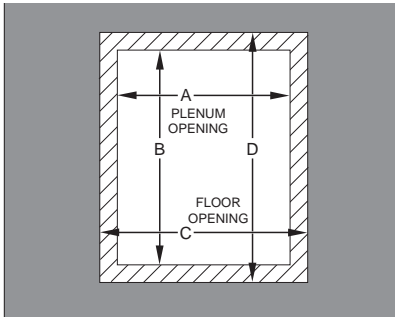

Fig. 11 – Floor and Plenum Opening Dimensions
- Construct hole in floor (see Table 4 and Fig. 11).
- Construct plenum to dimensions specified (see Table 4 and Fig. 11).